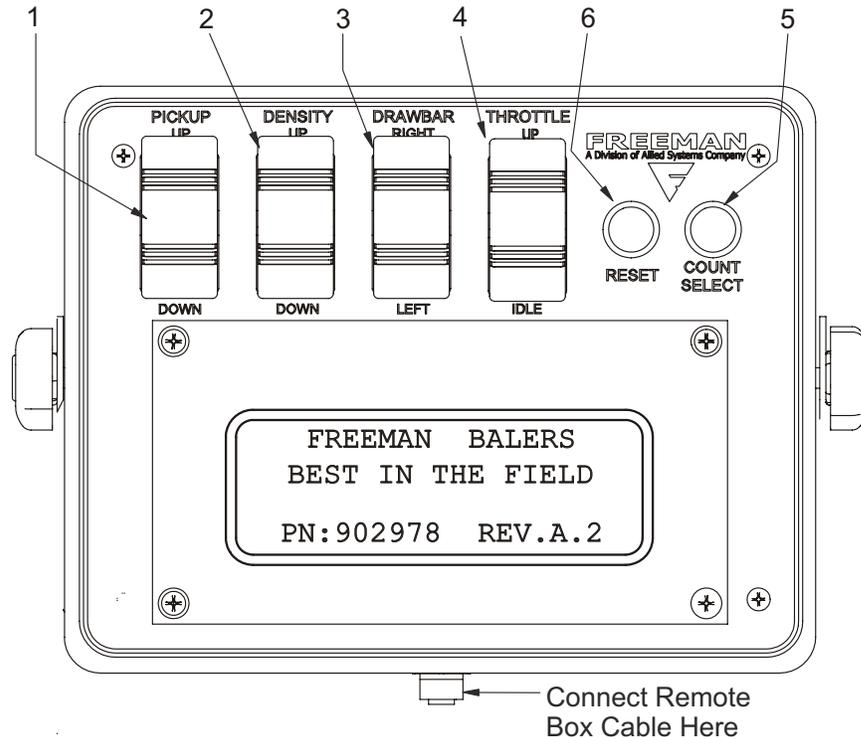

Figure 1 - Remote Controller
14. REMOTE CONTROL HARNESS CONNECTOR Connect remote control harness that is included with the baler to remote control box connector shown in Figure 1 page 1.
The ten fields/bale counts are toggled using the COUNT/SELECT button (see Figure 1 on page 1) and record the number of bales in the displayed field. Each bale count may be reset by holding down the RESET button for 1.5 seconds.